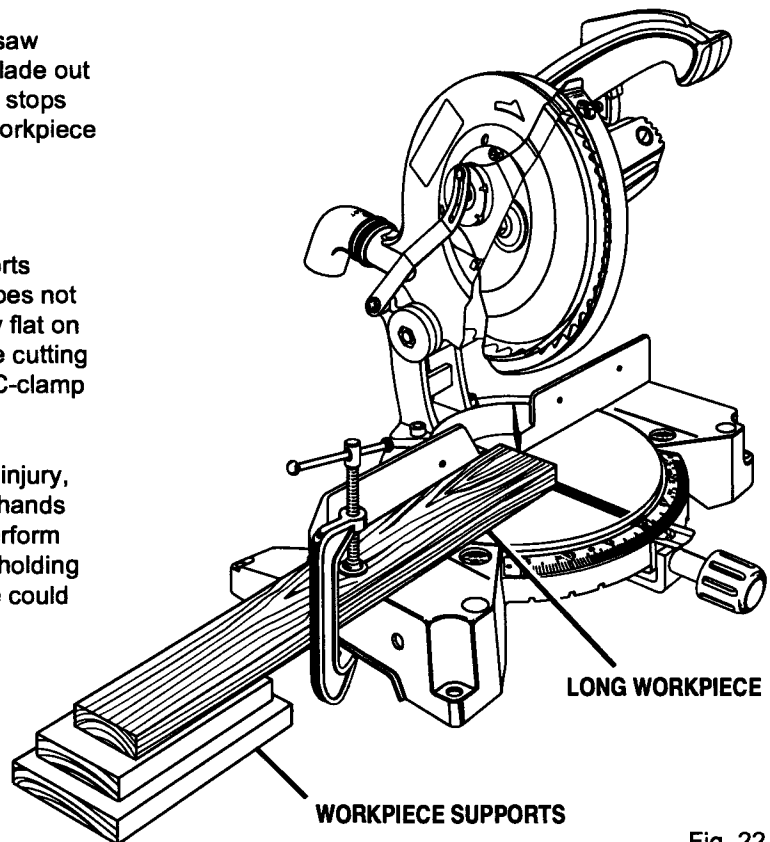

Fig. 22
- When cutting long pieces of lumber or molding, support the opposite end of the stock with a roller stand or with a work surface level with the saw table. See Figure 22.
See Figure 22.